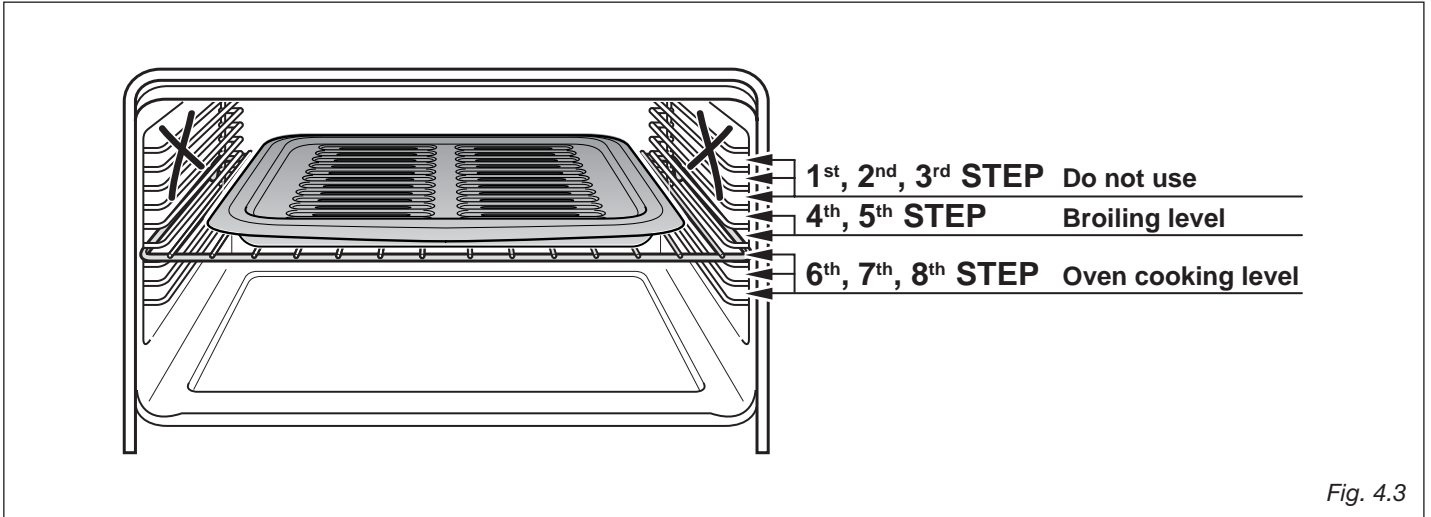
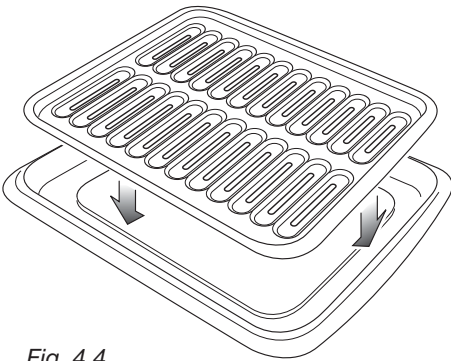

Fig. 4.3
Fig. 4.4
- Position the shelf on the fourth or fifth level from the top (fig. 4.3).
- Introduce the broiler pan (fig. 4.4) in the oven. The broiler pan should be placed above the shelf and it should be centered with the broil element (fig. 4.3).